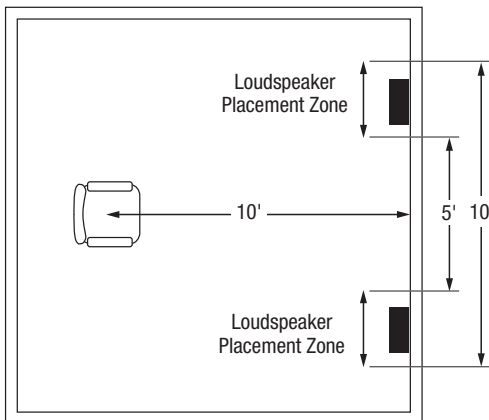

Figure 1. Recommended loudspeaker placement for front left and right channels.
- *In home theater applications where there is a center channel, you may choose to space the left and right main loudspeakers farther apart for a “bigger than life” sound with Dolby® encoded movies and TV shows. However, for combined music and movie usage, we recommend using the placement zone for stereo music. Ideally, if the listening position is 10 feet back from the wall, place the loudspeakers between 5 and 10 feet apart, as shown in **Figure 1**.*